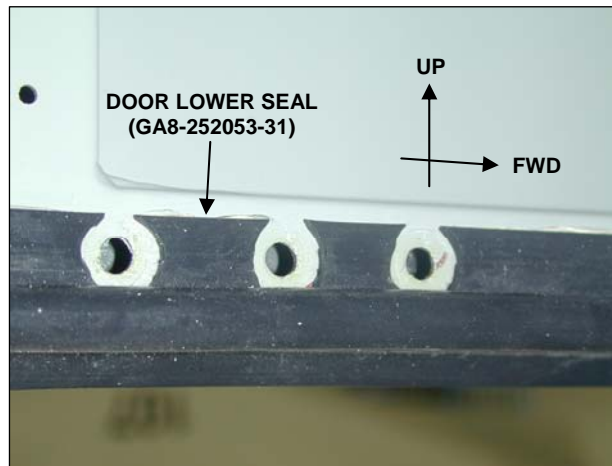
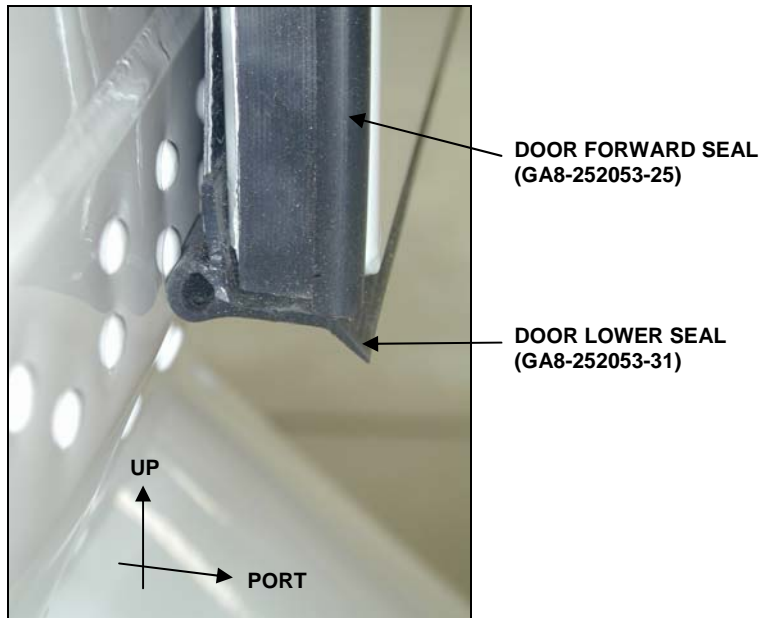

Figure 9: Holes in the leg of the seal around the holes in the door frame for installing the lower door slide mount.
Figure 12: Installation of the new lower and forward cabin door seals.
16. Locate and install the lower door seal (P/N GA8-252053-31) along the lower edge of the door starting at 1/4" forward past the forward vertical post to 5/16" past the aft vertical post, with the bent leg portion of the seal facing outboard and the bulb part of the seal facing inboard, using Dow Corning Silastic 747 Silicone RTV Adhesive/Sealant as the bonding agent, similar to the installation shown in Figure 12. Cut 1/4" diameter holes through the leg of the seal corresponding to the door frame drain holes, and 1/2" diameter holes in the leg of the seal around the holes in the door frame for installing the lower door slide mount, similar to the installation shown in Figure 9.
18. Locate and install the forward door seal (P/N GA8-252053-25) along the forward edge of the door, ensuring the bulb part of the P section is flush against the outboard face of the door and the 3/32" diameter holes near the ends of the seal face inboard, using Dow Corning Silastic 747 Silicone RTV Adhesive/Sealant as the bonding agent, similar to the installation shown in Figure 12.